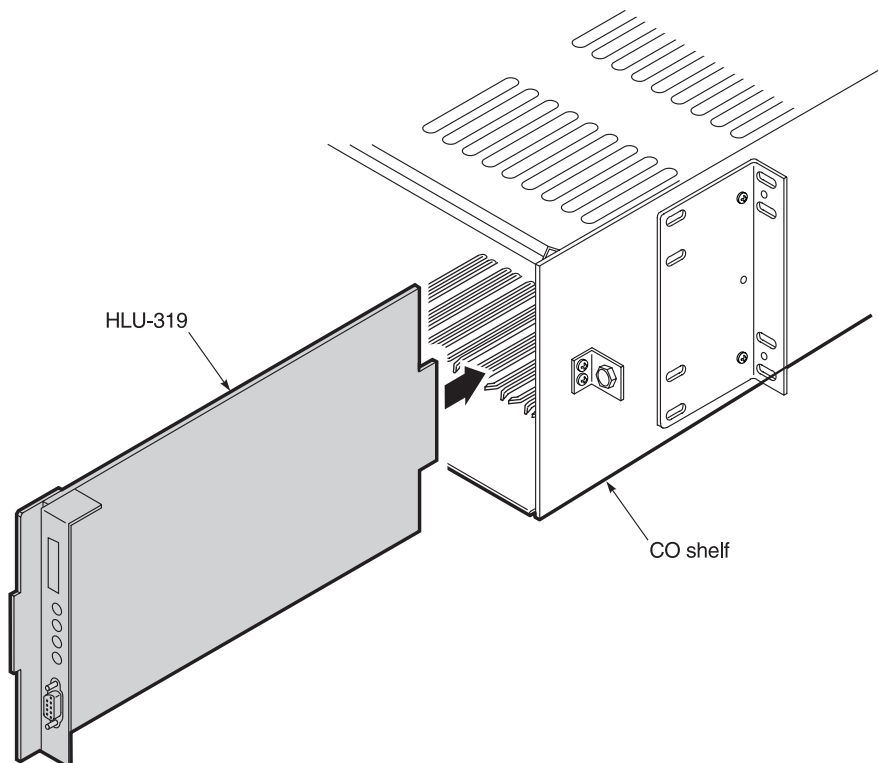

Figure 2. Installing the HLU-319 List 5A into a Shelf
- 1 Slide the HLU-319 into the card guides for the desired slot, then push the unit in until it touches the backplane card-edge connector (Figure 2).